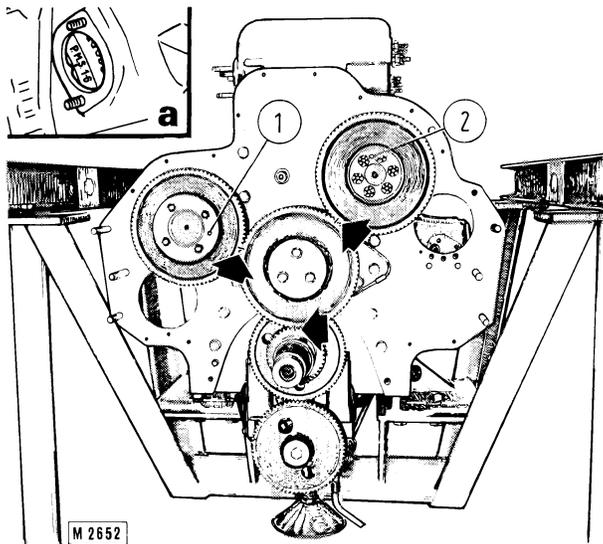

Fig. 21 - Valve timing.
— Loosen the fuel injectors and rotate the crankshaft until reference mark P.M.S. 1-6 (stamped on flywheel periphery) lines up with the associated fixed timing pointer (see Detail a, Fig. 21).
- Reposition the gears over their shafts taking care to align reference marks 1-1, 2-2 and 3-3 shown in Fig. 21, installing the idler gear last. This is necessary because the other two timing gears have their assembly position restricted by dowels (1 and 2).